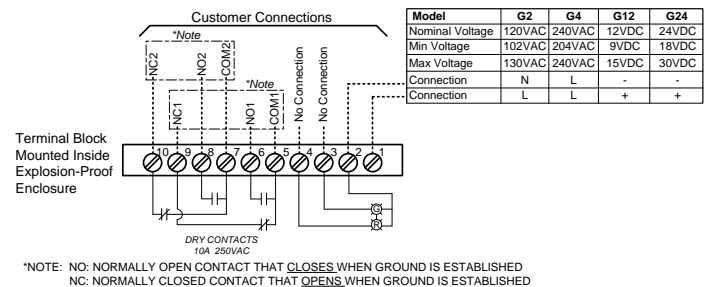

Figure 2:
7. Reconnect all connections to terminals 5-10 as necessary, following the chart in Figure 2.
8. Replace cover and secure using (14) 5/16" bolts. Tighten to 11 ft-lbs using 1/2" wrench.